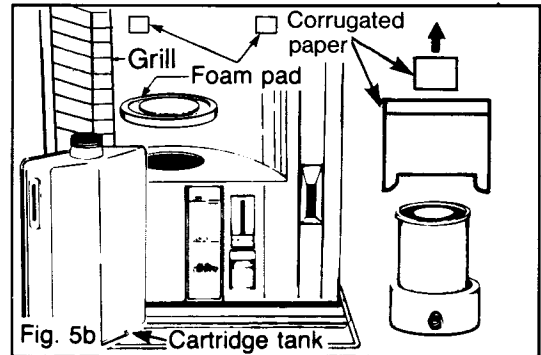

Fig. 5b
4. Remove the corrugated paper wrapping the burner and the foam pad under the burner and the foam pad on the each side of the vertical reflector (See Fig. 5b).